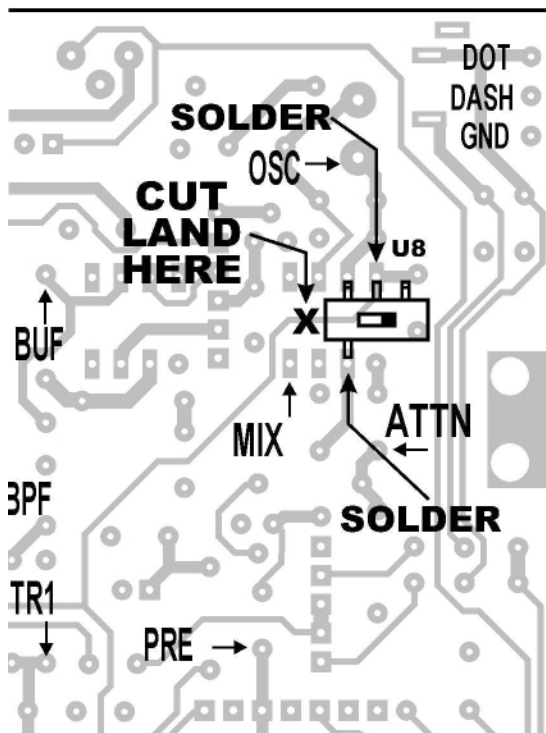

Figure 9
- B. On the bottom of the RF board, locate the label "MIX". The label includes an arrow which points to pin 4 of U8. Locate pin 8 of U8, which is diagonally opposite from pin 4. (See Figure 9.)
- D. Refer to Figure 9 and cut the long trace that goes to pin 8 of U8. Make sure that the trace is cut completely.
- F. Refer to Figure 9 and place the switch on the PC board such that the center of the switch's three pins touches pin 8 of U8 and the end pin on the other side of the switch touches U8 pin 4. The bottom of the switch must be laid flush against the PC board, and no metal part of the switch should touch any adjacent pads or leads. (If the switch is not flat against the PC board, it may extend more than 0.25" (6 mm) above the PC board, preventing proper installation of the bottom cover.)